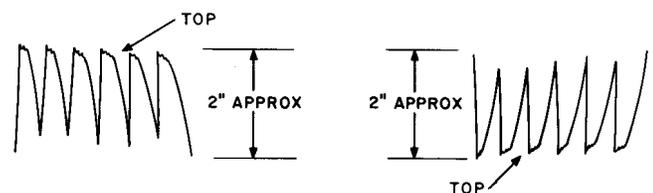

Fig. 2—Voltage Waveshape at Input to Filter
- (b) Adjust the sweep frequency so as to have six partial sine waves present on the oscilloscope as indicated in Fig. 2. The trace may appear as either one of the two figures shown. The height of the trace shall be approximately 2 inches. If all waves are approximately of equal height, the cores of the L1, L2, and L3 saturable reactors are balanced and the trouble is elsewhere (check filter). If they are not of equal height, it is an indication
- (f) The adjustment of any of the BAL potentiometers affects the lower position (opposite TOP Fig. 2) of two partial sine waves. If the height of any wave cannot be adjusted, it is an indication of a defective associated saturable reactor. Replace it and match the core characteristics of **all** of the saturable reactors (L1, L2, and L3) as follows:
- (1) BAL 1 through BAL 6 balancing potentiometers of the saturable reactors should be turned maximum ccw.
- (2) Determine which balancing potentiometer affects the height of the longest half wave viewed on the oscilloscope (longest is defined as the longest line from TOP as designated in Fig. 2).